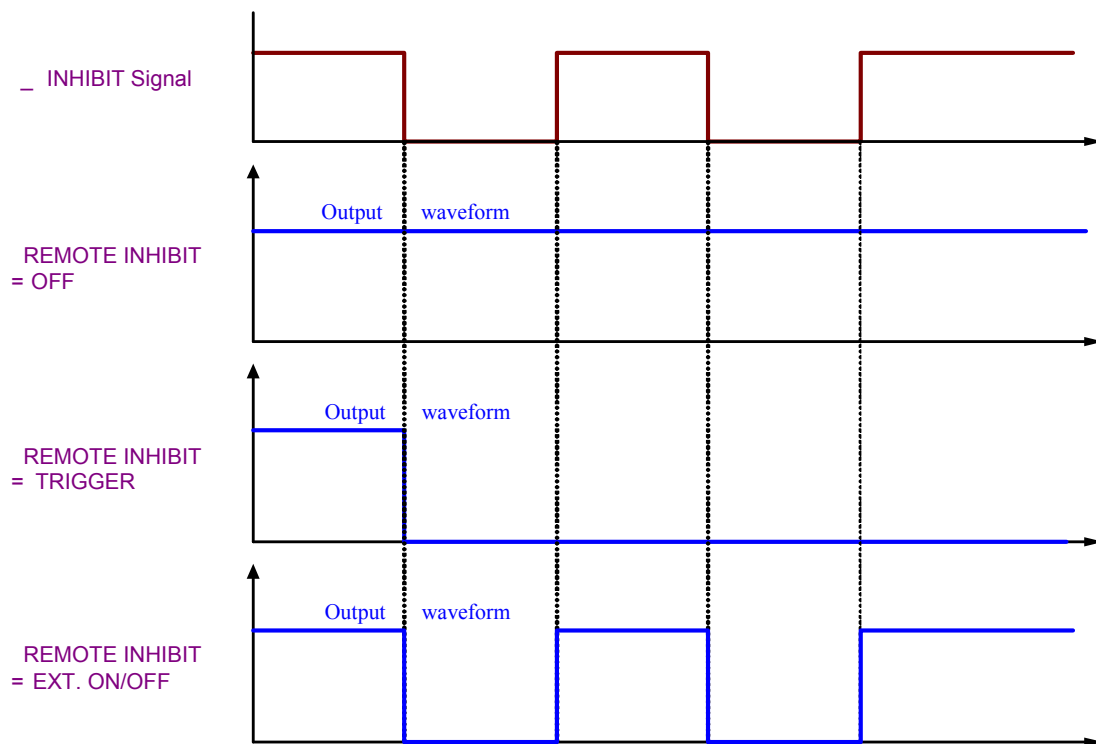

Figure A-0-1 Detail Actions of PIN9
- (1) PIN 1: 12V auxiliary power; see section 3.3.1.3.
- (2) PIN 2: Ground of 12V auxiliary power; see section 3.3.1.3.
- (3) PIN 3: Voltage programming; see section 3.3.1.3.
- (4) PIN 4: Current programming; see section 3.3.1.3.
- (5) PIN 5: Voltage measurement; see section 3.3.1.3.
- (6) PIN 6: Current measurement; see section 3.3.1.3.
- (7) PIN 7: SAFETY INT.LOCK, see section 3.3.5.5.
- (8) PIN 8: External trigger signal of Program mode; see section 4.1.2.2.
- (9) PIN 9: When the voltage level of this pin turns to LOW, it inhibits the output of DC Power Supply. When REMOTE INHIBIT sets to OFF, the pin is invalid and when REMOTE INHIBIT sets to TRIGGER once the low level triggers it, it equals pressing “**OUTPUT**” key to set **OUTPUT = OFF**; and when REMOTE INHIBIT sets to EXT. ON/OFF when the voltage level turns to LOW, it equals pressing “**OUTPUT**” key to set **OUTPUT = OFF**; however, when the voltage level of this pin turns to HIGH the power supply returns to normal output. Figure A-0-1 shows the detail actions.
- (10) PIN 10: When the DC power supply output is ON and the voltage is over VDC_R, the pin10 DC_ON of SYSTEM STATUS on the device rear panel will turn to HIGH. When the DC power supply output voltage is lower than VDC_F setting, the pin10 DC_ON of SYSTEM STATUS on the device rear panel will turn to LOW.
- (11) PIN 11: When protection occurs as described in section 3.3.5, this will turn to LOW.
- (12) PIN 12: Bit 0 of TTL signal output; see section 3.3.2.5 for detail setting.
- (13) PIN 13: Bit 1 of TTL signal output; see section 3.3.2.5 for detail setting.
- (14) PIN 14: Bit 2 of TTL signal output; see section 3.3.2.5 for detail setting.
- (15) PIN 15: Bit 3 of TTL signal output; see section 3.3.2.5 for detail setting.
- (16) PIN 16: Bit 4 of TTL signal output; see section 3.3.2.5 for detail setting.
- (17) PIN 17: Bit 5 of TTL signal output; see section 3.3.2.5 for detail setting.
- (18) PIN 18: Bit 6 of TTL signal output; see section 3.3.2.5 for detail setting.
- (19) PIN 19: Bit 7 of TTL signal output; see section 3.3.2.5 for detail setting.